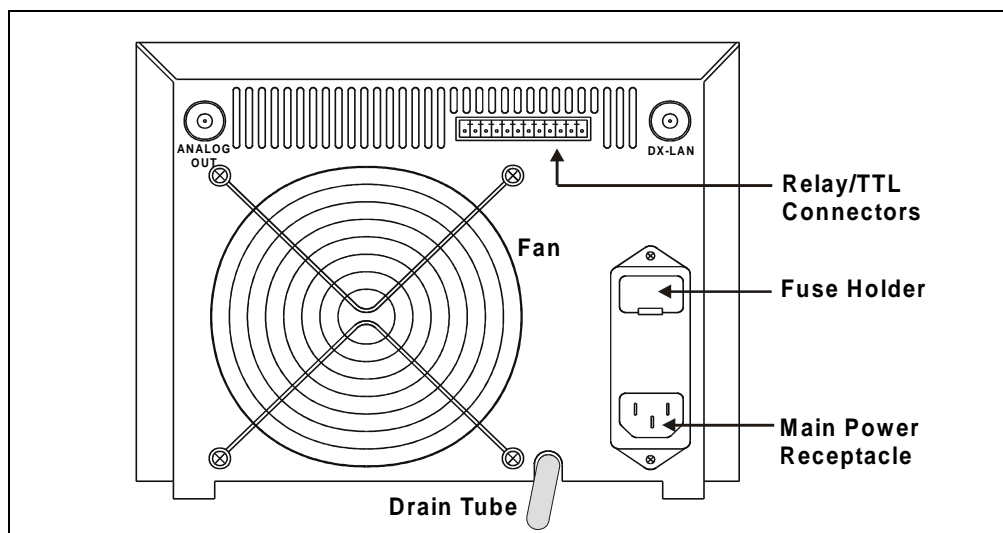

Figure B-2. AD25 Rear Panel
*To implement:* Connect a modular power cord (IEC 320 C13) from the AD25 main power receptacle (see Figure B-2) to a grounded, single-phase power source. Use the AD25 power switch actuator (see Figure 2-1) to turn the detector on and off.
*To implement:* Locate one of the IEC jumper cables (P/N 960748) provided in the LC30 Ship Kit. Connect the jumper cable from the AD25 main power receptacle (see Figure B-2) to an IEC auxiliary receptacle on the LC30 rear panel. Leave the AD25 power switch on continuously, and use the LC30 main power switch to turn the detector on and off.
A drain tube is connected to the AD25 rear panel (see Figure B-2). Place the free end of the tubing in a waste container below the level of the lab bench on which the AD25 is installed.
Connect a recorder or an integrator to the **ANALOG OUT** connector on the AD25 rear panel (see Figure B-2).
- a. Note the two small locking pins on either side of the **DX-LAN** connector on the AD25 rear panel (see Figure B-2).